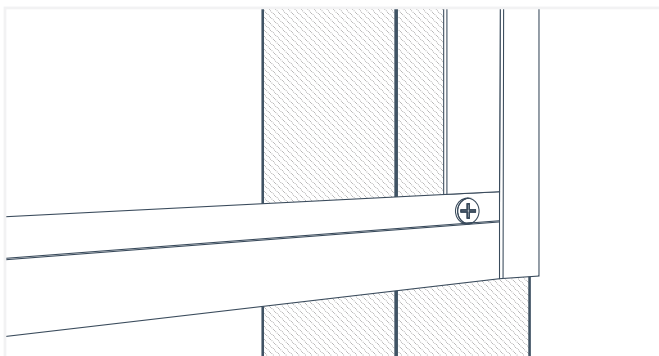

Fig. 28
7. Starting at a bottom corner of the installation area, place the vertical J Trim (3/4") so it overlaps the horizontal J Trim (1/2") where the two pieces meet, as shown below (Fig. 28). The result is an aesthetically pleasing corner allowing for both J Trims to be fastened to the same stud. Fasten a screw through both trims where they overlap, directly into the stud. Repeat this process for the other bottom corner of your installation area.